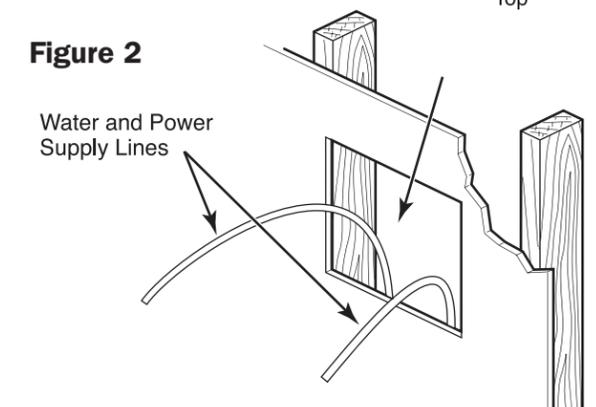
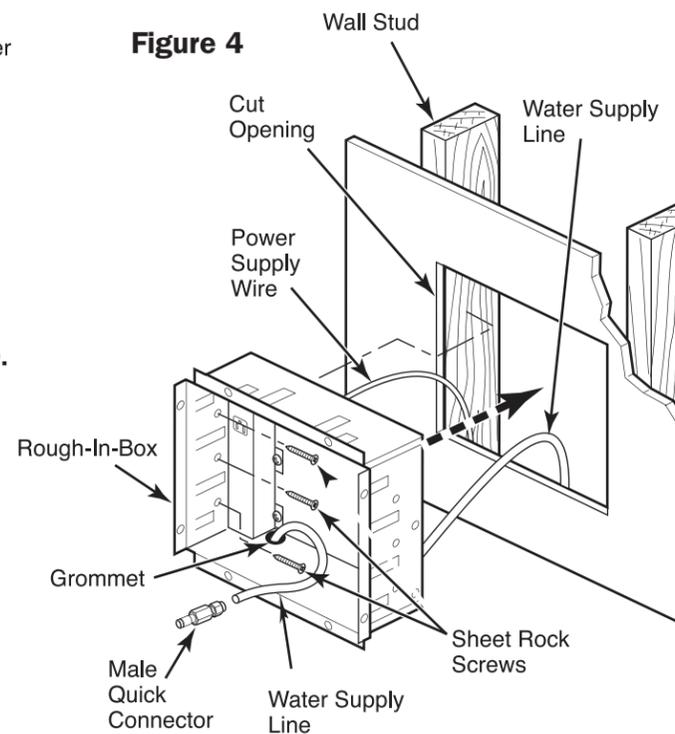

Figure 2
Figure 4
2. Use a utility knife to carefully cut inside the penciled outline area. Start with the stud side and work outward. DO NOT USE A SAW. Remove sheet rock piece exposing **wall cavity**. Bring **water** and **power supply** lines from source to this location. See **Figure 2**.
3. Place **rough-in-box** on a towel or cardboard to protect counter surface. Bring **power supply wire** from source to cut opening as previously shown in **Figure 2**. Minimum 12-2 wire required. Be sure to have an additional length of approximately 18" recommended at **rough-in-box** opening for installation of box. Remove **power panel cover**. Install **strain relief** (not supplied) in hole. Run **power supply wire** through **strain relief** and secure **power supply wire** (See **Supply Detail, page 10**). Connect **power supply wires** to **power panel supply wires** and secure with **wire nuts** (See **Wiring Detail, page 10**). Connect **green** wire to **green** wire, **black** to **black** and **white** to **white**. Carefully reinstall **power panel cover**. Be certain not to damage wires or insulation. See **Figure 3**.
- Bring 1/4" water supply line from source (See page 6) to **cut opening** as shown in **Figure 2**. (page 9). Bring water line through **grommet** in **rough-in-box** (See **Supply Detail**). Carefully slide **rough-in-box** as shown into **cut opening** while gently pulling **water supply line** through **grommet** hole in **rough-in-box** pulling through excess (approx 18"). Secure **rough-in-box** to wall stud with **sheet rock screws**. PURGE WATER LINE by running water through line to clean any possible debris. Cut water line to length (approx 3") inside **rough-in-box** and attach **male quick connector**. (See **Male Connector Detail**) and **Figure 4**.